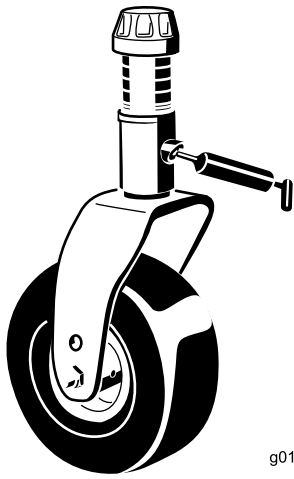

Figure 84
- 1 caster-fork-shaft bushing (Figure 84)